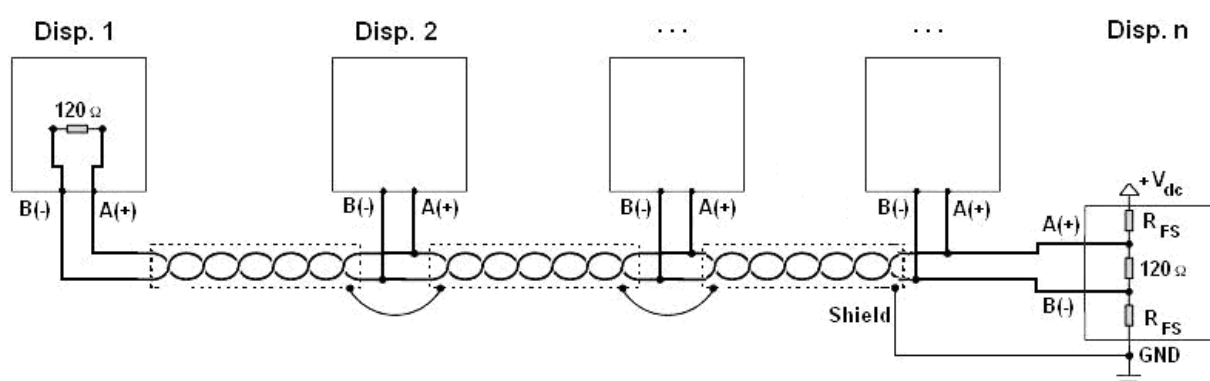

Figure 7. Electrical diagram of RS485 connection
- On the RS485 network normally one connects 2 termination resistances equal to the characteristic impedance of the cable (typically 120 Ω , see Figure 7), ONLY on the 2 devices which are at the 2 ends of the ring connection (for example indicator and last device). The terminal resistance is not supplied with the ports of the indicator.
- To create a resistive divider which maintains this difference of potential also when all the transmitters are disabled, inert in the RS485 port of the indicator where there are the termination resistances, the polarisation or fail-safe resistances (R_{FS} in Figure 7). The value of these resistances is between 390 Ω and 2,2 k Ω .